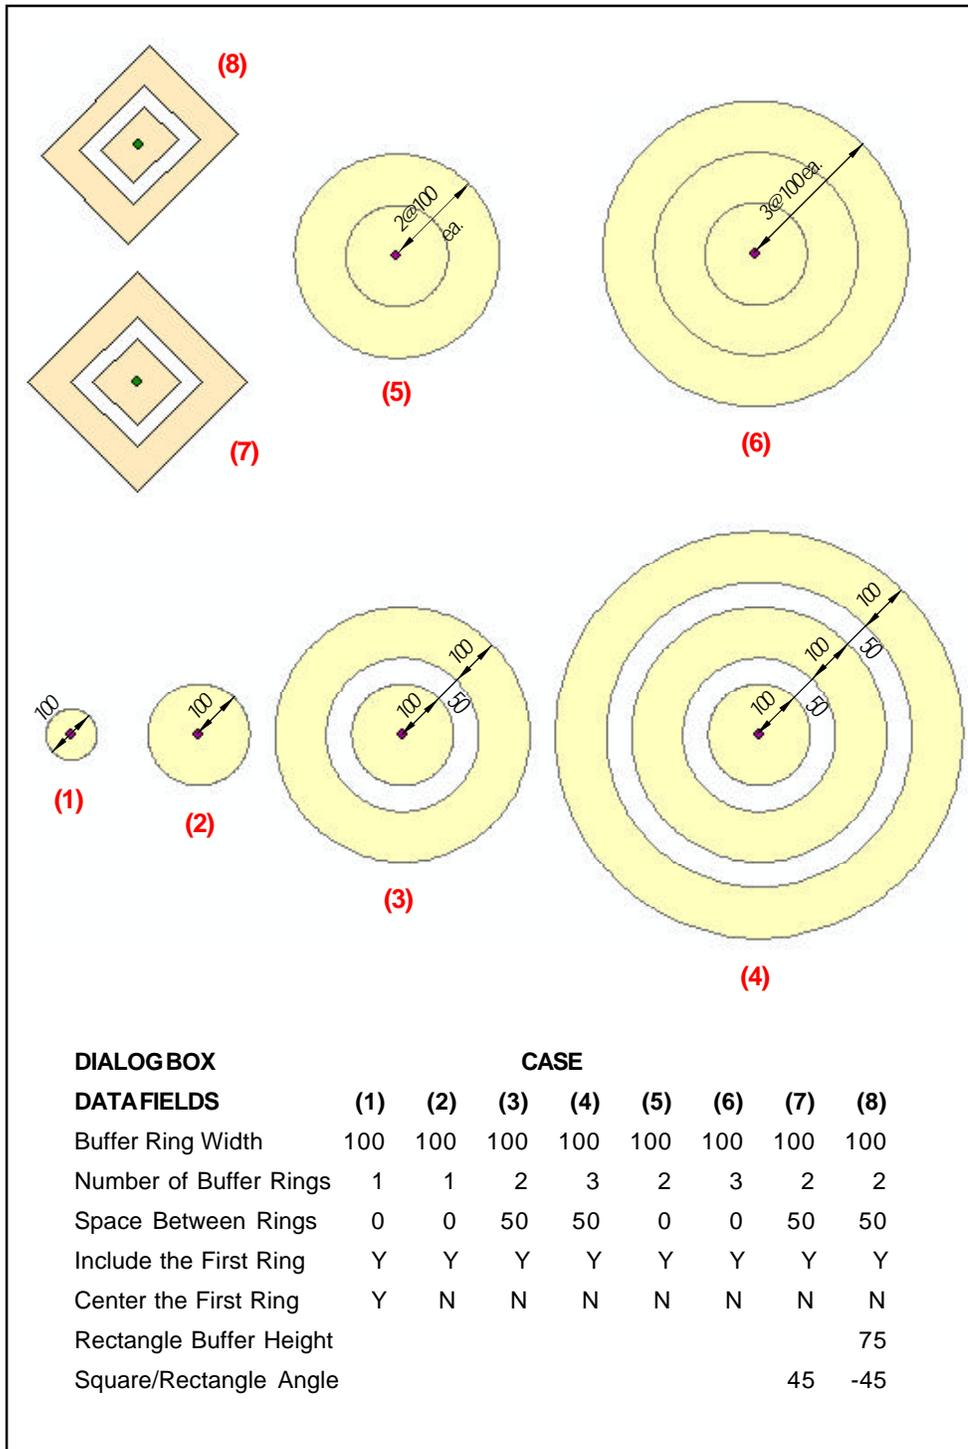

Figure 6 - Buffer Zones About a Point
The steps described below are encountered when this command processes point features. To help describe the various data fields below, reference is made to the eight buffer zone cases presented in Figure 6.
- **8a** Enter in the *Enter the number of buffer rings*: data field the **number** of buffer rings to be created. Note that each ring could be separated from another with a space, to be entered below, without this space being considered to be a ring. Refer to cases (3) and (5), and to cases (4) and (6) in Figure 6.
- **10a** Scroll down in the *Include the first ring (Y=yes, N=no)*: data field, and **select** the **y** or the **n** option whether to generate, or not the first ring. Note that if in Figure 6, had the response to this data field been the **n** option
to be created, or as the full width, if a square or rectangle is to be created. In Figure 6, compare case (1) with the **y** option with all of the other cases with the **n** option.
- **13a** Enter in the *Enter square/rectangle angle - degrees*: data field the **Cartesian angle** of the square or rectangular buffer rings to be created. Refer to cases (7) and (8) in Figure 6. Note that for a circle, this data field is disregarded.
b. When multiple ring buffer zones are created about a point, as in cases (3) through (8) of Figure 6,